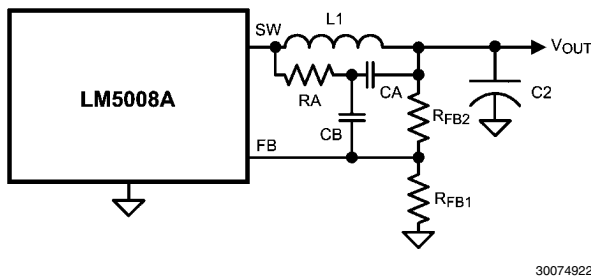

FIGURE 8. Minimum Output Ripple Using Ripple Injection
b) Minimum ripple configuration: If the application requires a lower value of ripple (<10 mVp-p), the circuit of *Figure 8* can be used. R3 is removed, and the resulting output ripple voltage is determined by the inductor's ripple current and C2's characteristics. RA and CA are chosen to generate a sawtooth waveform at their junction, and that voltage is AC-coupled to the FB pin via CB. To determine the values for RA, CA and CB, use the following procedure: